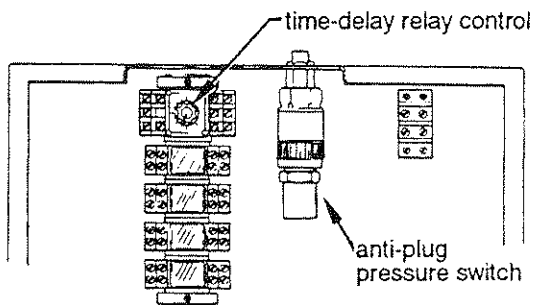

Fig. 28 Anti-plug pressure switch (PS-1) and time-delay relay (RL-2)
4. ADJUST ANTI-PLUG SWITCH Find the anti-plug pressure switch inside the control box (fig. 28). Use a $1\frac{1}{4}$ inch wrench to hold the anti-plug pressure switch from turning when making adjustments to the knurled part of the switch. The knurled part of the switch is turned clockwise (looking from below the switch) to increase the switch pressure setting.